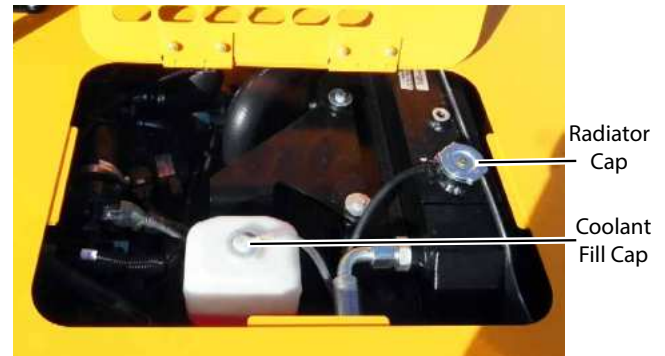

Figure 5-42. Radiator and Coolant Fluid Caps
2. Carefully remove the radiator surge tank cap. (Figure 5-42)